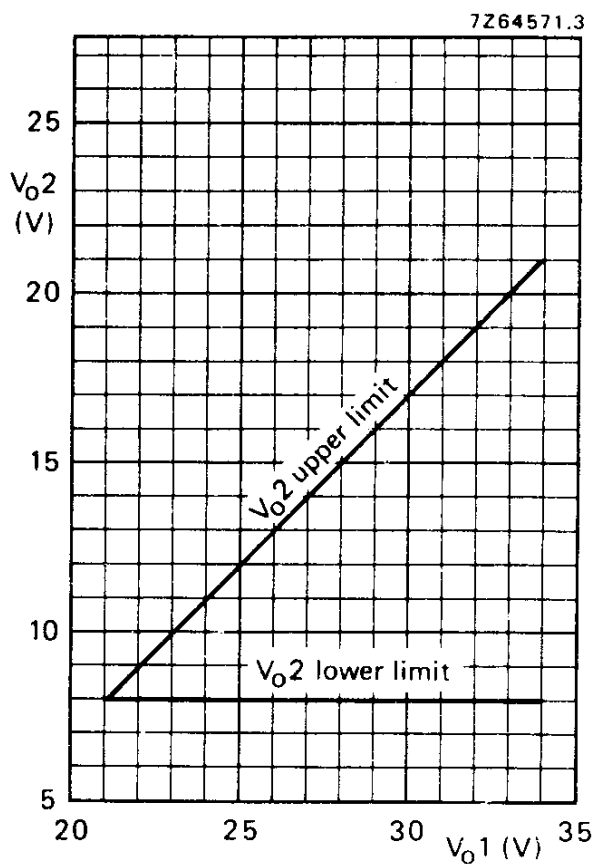

Fig. 6 Range of values for V_{02} .
10. V_{O2} depends on the value of V_{O1} (see Fig. 6); adjustable with RA_2 .